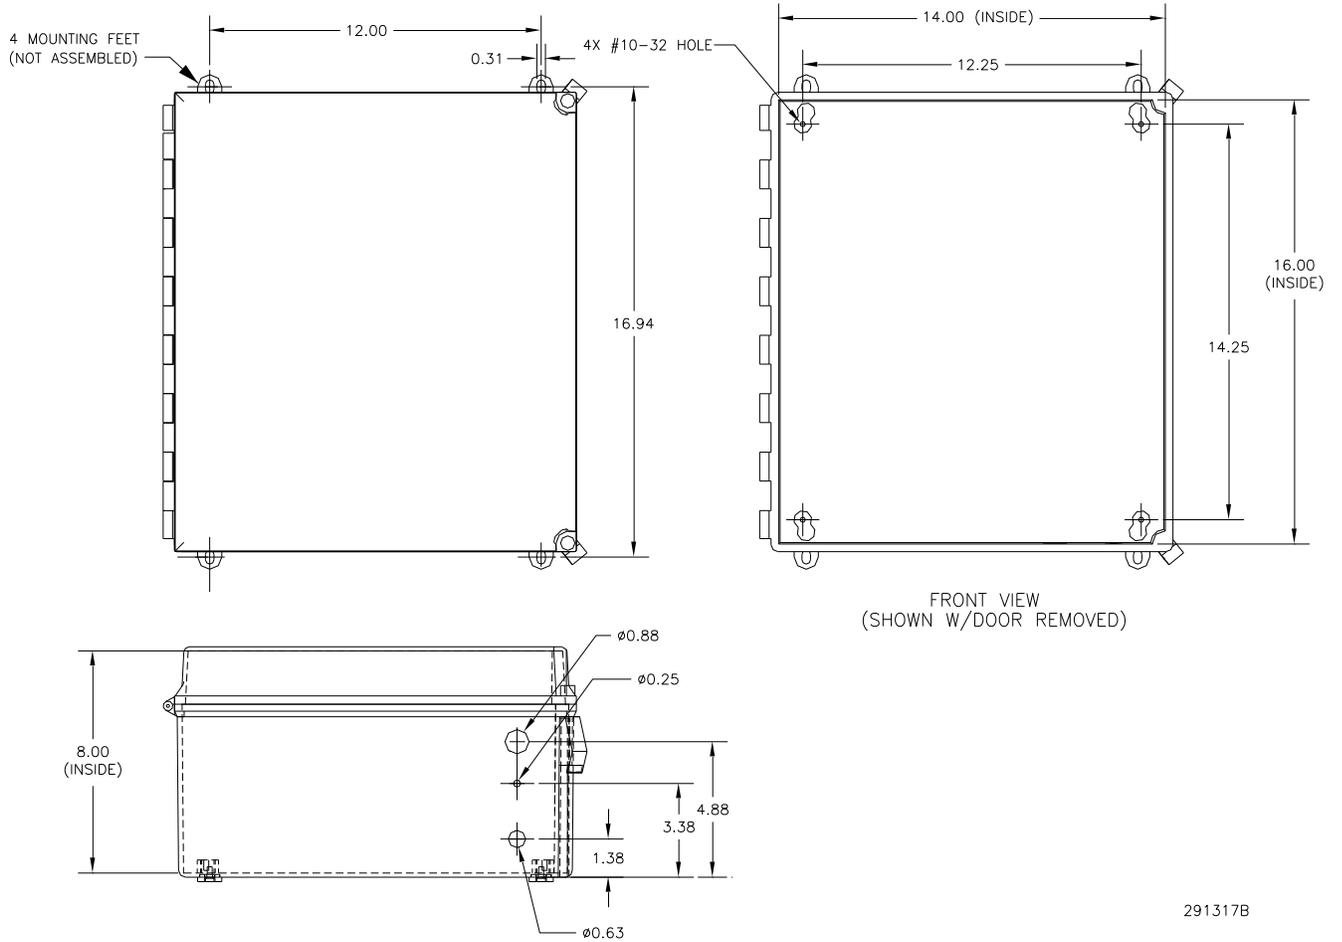

Figure 7.2 - UVRI Cabinet Dimensional Outline Drawing
1. There are four cabinet mounting flanges available for bolting the UVRI to a flat surface, (see *Figure 7.2*).